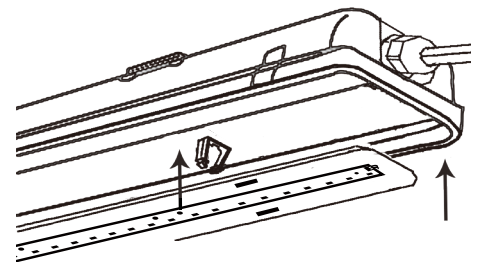

Figure 10
13. Position metal cover onto fixture opening. Make sure wires are not pinched between plastic housing and metal cover. Lift the metal cover, let the catchers through the slots, and lock. **See Fig.10**